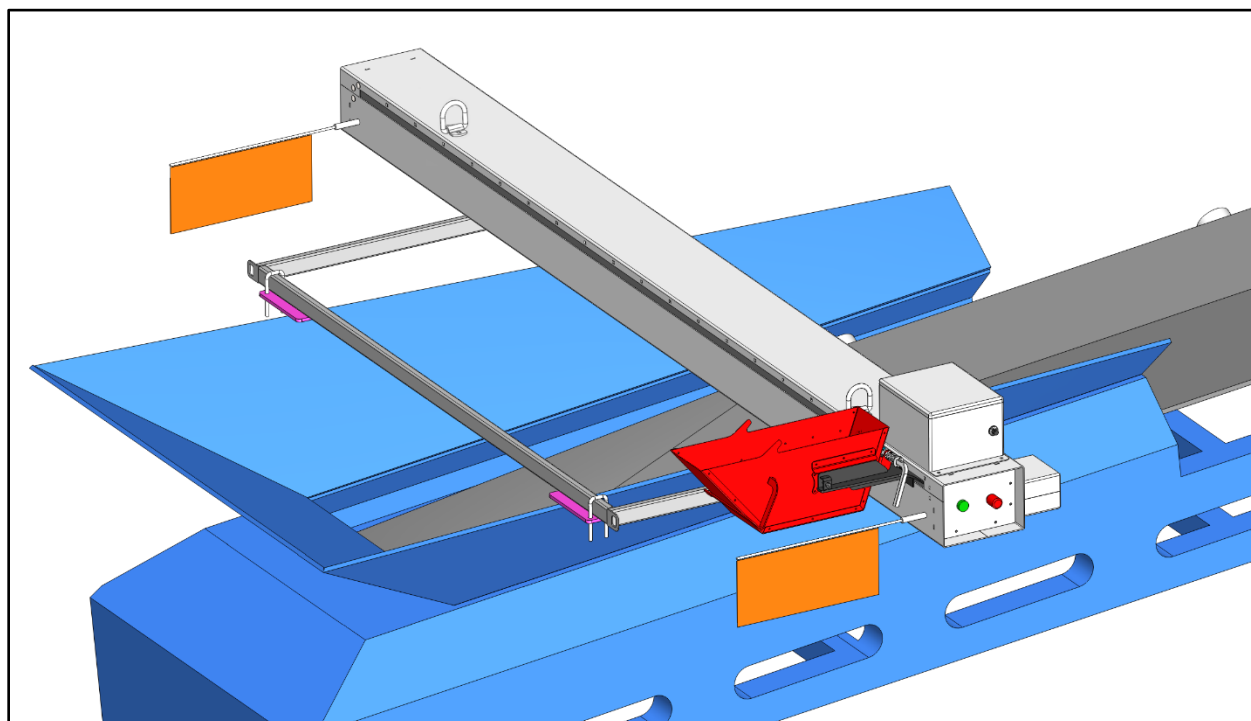

Figure 2 – Showing sample taker attached to conveyor (blue) with U-bolt brackets. Shown with downstream bucket arrangement.
- The A-1000 can be oriented with the bucket on the upstream or downstream side of the conveyor stream, depending on the end user requirements - see Figures 2 and 3